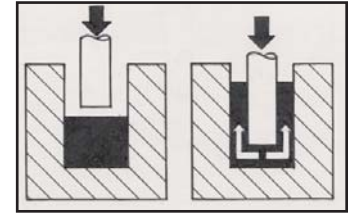

Figure 4. Impact extrusion, another cold forging process, produces hollow parts. Here, the metal flows back around the descending ram.
**Impact extrusion:** a reverse extrusion process in which metal is displaced backwards between a punch and a die to form a hollow part. See Figure 4.